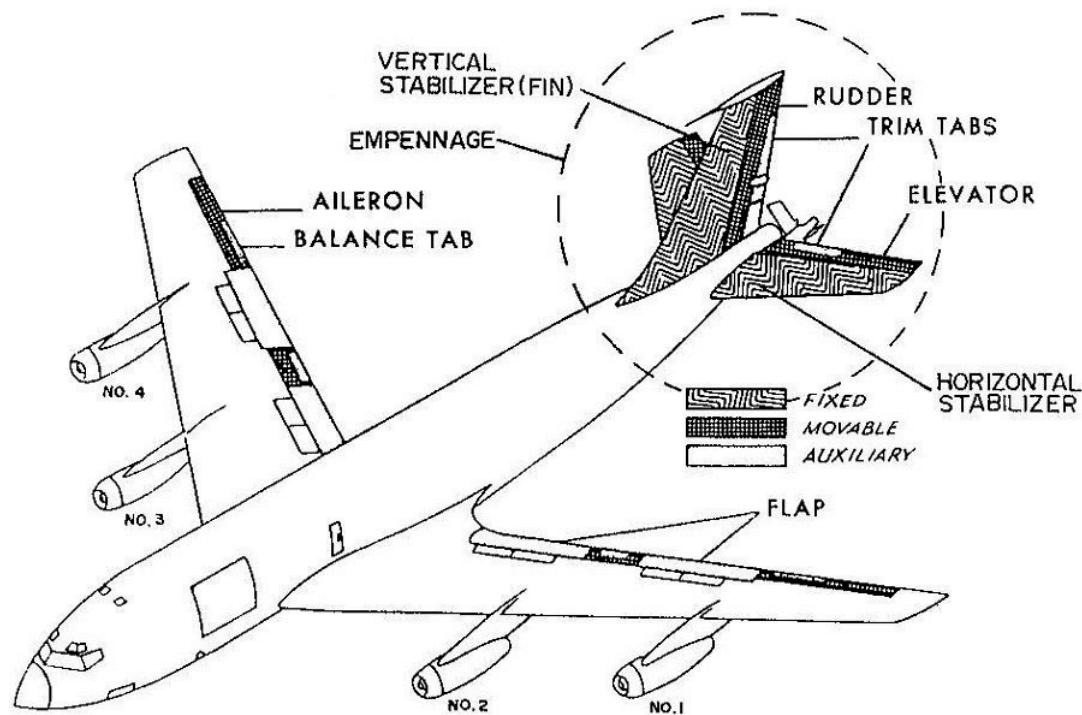

Figure 5-6. Aircraft control surfaces.
The empennage (fig. 5-6) is the tail section of the aircraft. It includes (1) the aft end of the fuselage; (2) horizontal and vertical stabilizers; (3) rudder; (4) elevator; and (5) trim tabs.
Flight control surfaces (fig. 5-6) consist of two major groups: primary control group and secondary/auxiliary control group.